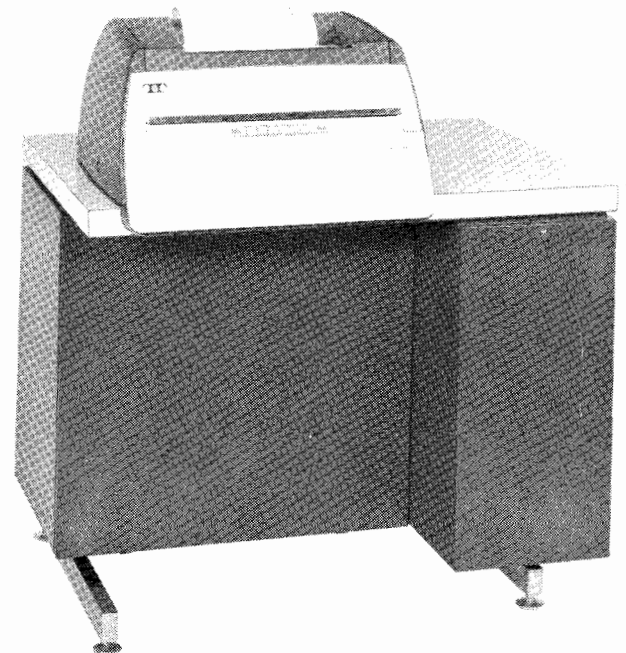

Figure 1 - 37 RO Teletypewriter Set
1.01 This section provides a general description of the 37 Receive-Only (RO) Teletypewriter Set (Figure 1). Set information, which applies to a specific station arrangement only, will be found in the station documentation. REFERENCES, in this section, provides a guide to more specific information.
- 2.01 A typical RO set (Figure 1) consists of the following components: